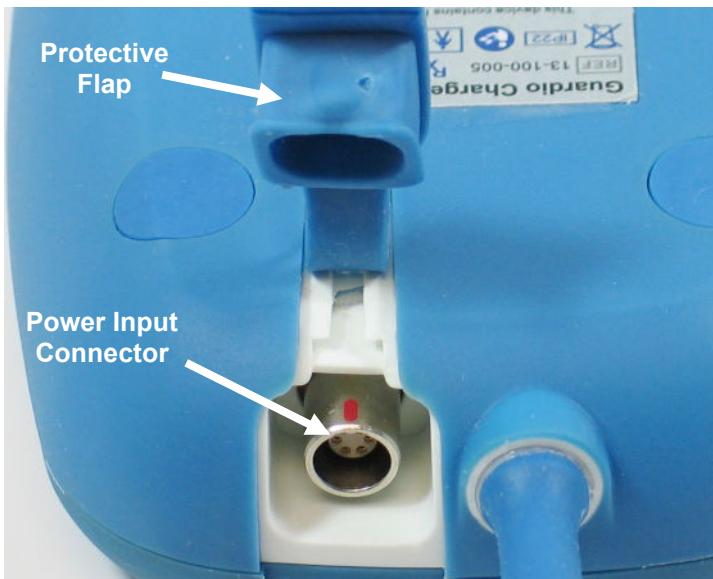

Figure 7: Back of the Charger
2. Remove the protective cover flap from the power input connector located next to the base of the charging wand cable. **See Figure 7.**